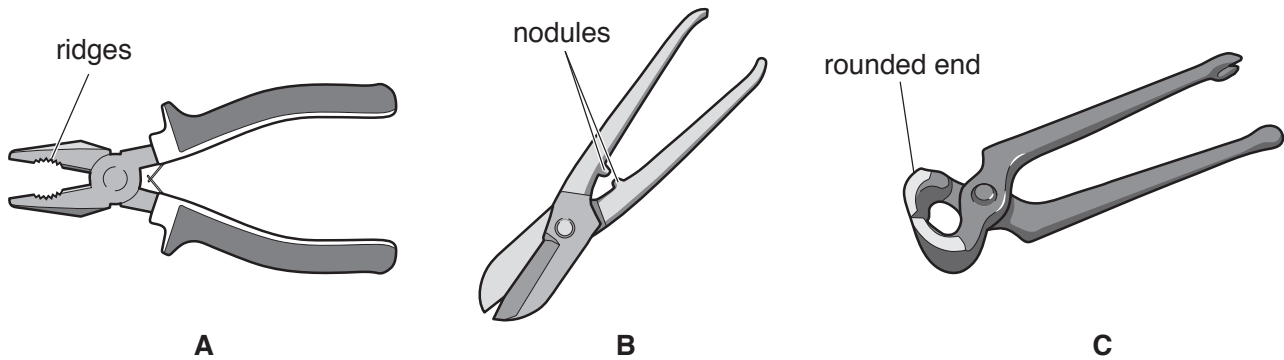

Fig. 5
11 Three different tools are shown in Fig. 5.
- (a) Name the tools shown in Fig. 5 and state a specific use for each. [6]